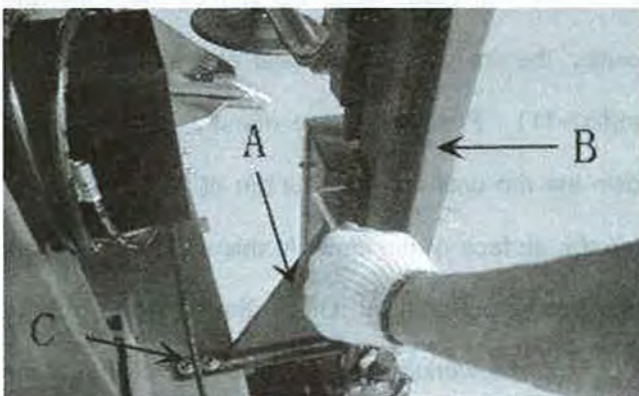
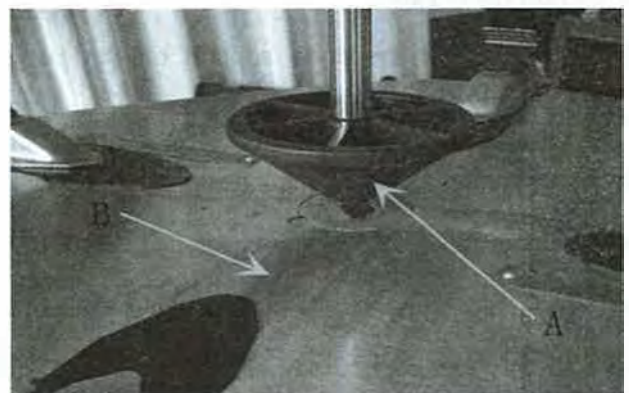

Fig 7-4
Fig 7-6
7.1.5 Use the fix supporting bracket (Fig7-4 A) to connect the body bracket and the body and insert the screw to fix
7.1.7 Connect the air source, insert the press cone roller connect rod (Fig 7-6 A) into the rotation shaft hole(Fig7-6 B) of the rotation arm. Handle manual direction change valve to make the tip of the press cone roller coincide to the center of the turntable (Fig7-7) . If not coincide, use the screw to adjust the position of the base(Fig7-4) to realize the coincide. After adjustment, fix the bolt.